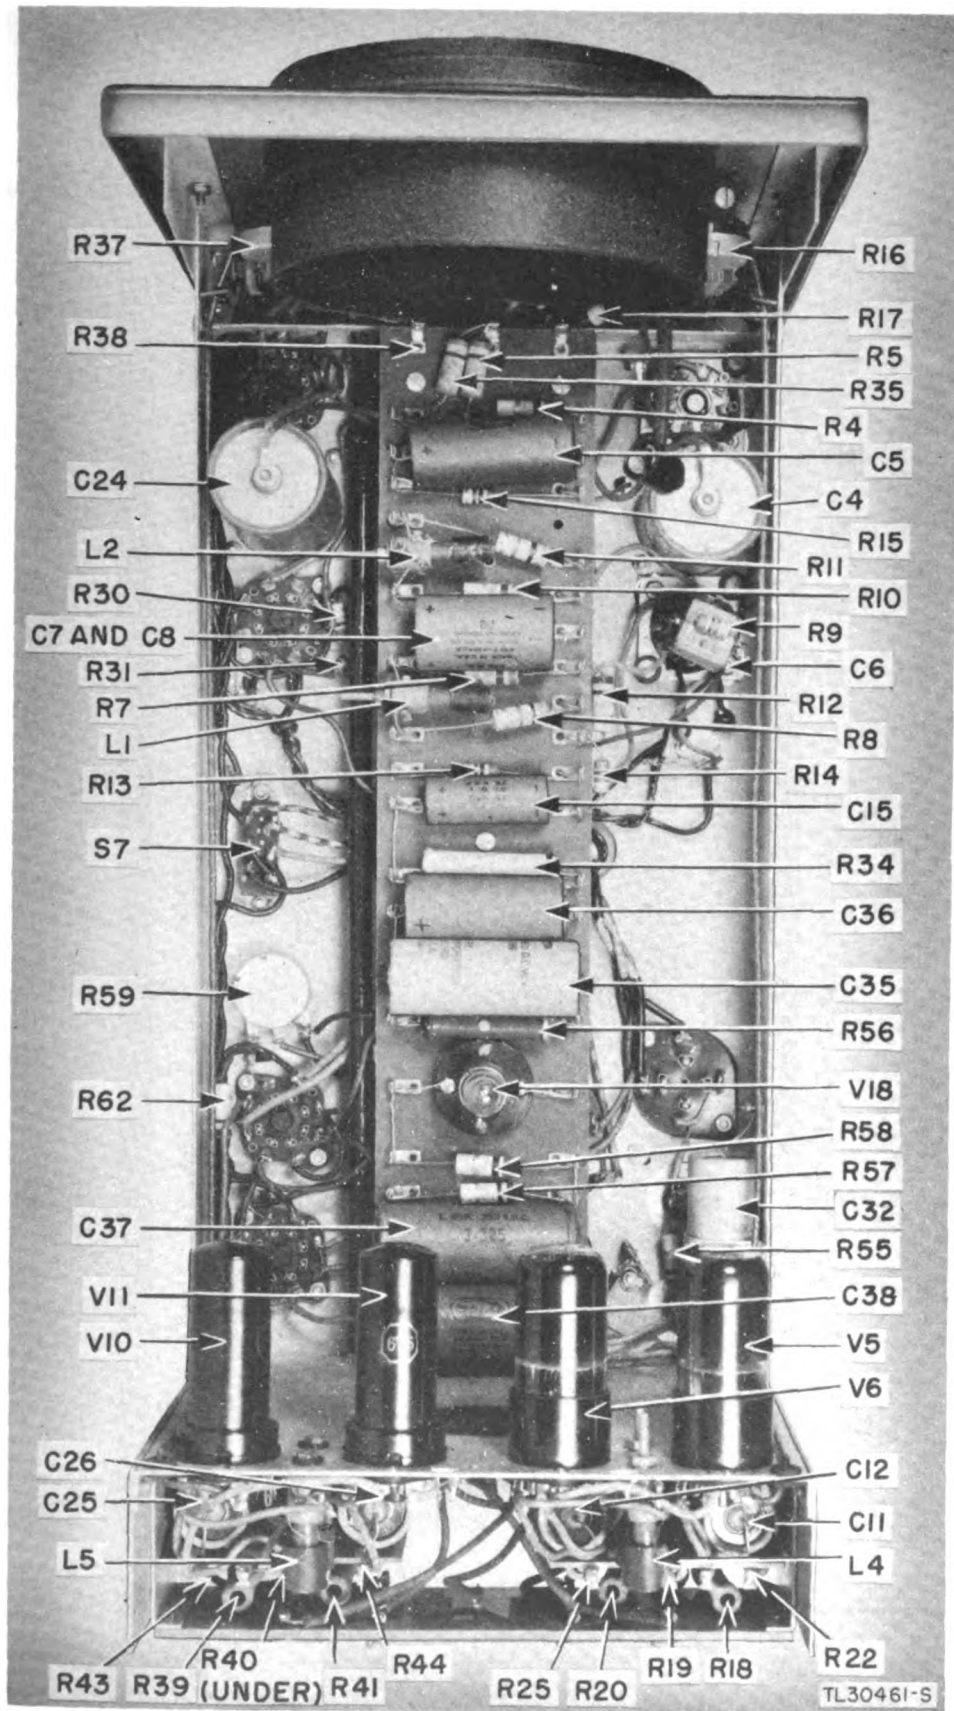

Figure 27. Top of chassis, cathode-ray tube removed.
(2) Remove tubes V6 and V11 (fig. 27) from their sockets.